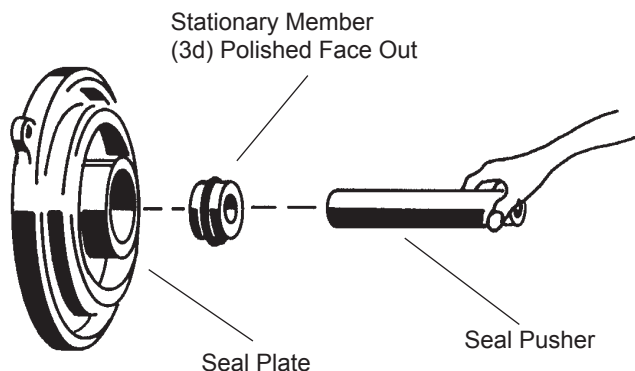

FIGURE 11
F-4.2) Replacing Shaft Seal (refer to fig. 11, 12 & 13):
When replacing the shaft seal (3), remove used rotating member (3c), spring (3b), and spring retainer (3a) from motor shaft. Press used stationary member (3d) from the seal plate (2). At reassembly, clean seal cavity thoroughly and apply a light coat of oil. Lightly oil the rubber ring (**DO NOT use grease**) and press the stationary member firmly into the seal plate using a seal pusher (See Parts List-Seal Tool Kit), nothing but pusher to come in contact with seal face (see Fig. 11). Insert so that the finished surface is up and the grooved surface is against the seal plate. Make sure the stationary member is in straight and that the rubber ring is not out of it's groove.